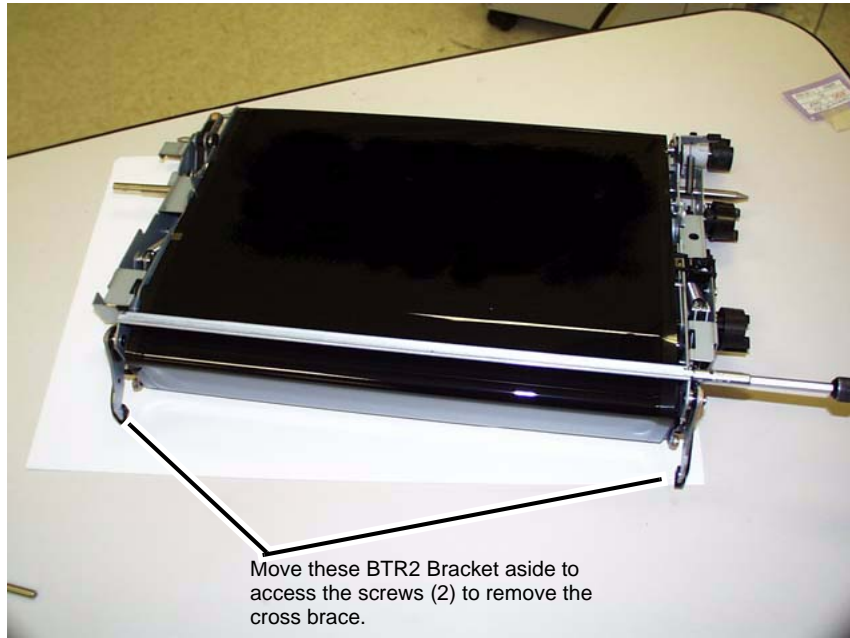

Figure 3 Removing the cross brace.
7. Remove the cross brace. (Figure 3)